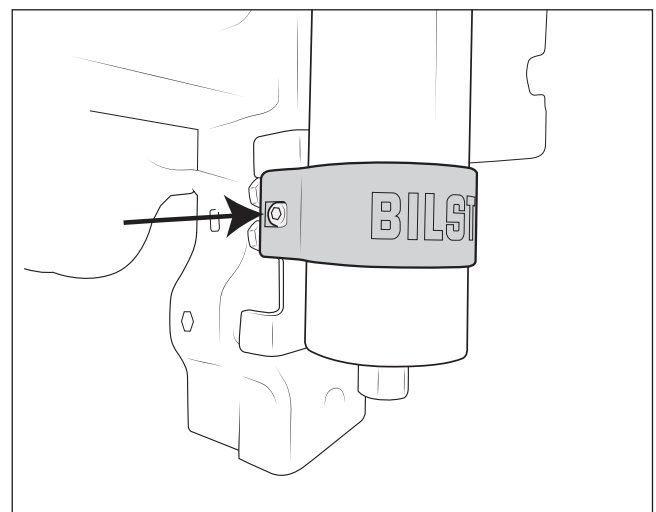

Figure 9
10. Install the reservoir clamp bolt from the rear so that the nut is at the front. Do not tighten yet. Position the reservoir so that 1.5-2" of the body sticks below the bottom of the clamp. Rotate it so that the hose and fitting point inboard about 45° toward the body mount, making sure the hose and fitting don't contact the body mount or any other sharp edges. Tighten the clamping bolt until snug, excessive force is not needed to hold the reservoir in place (fig. 9).